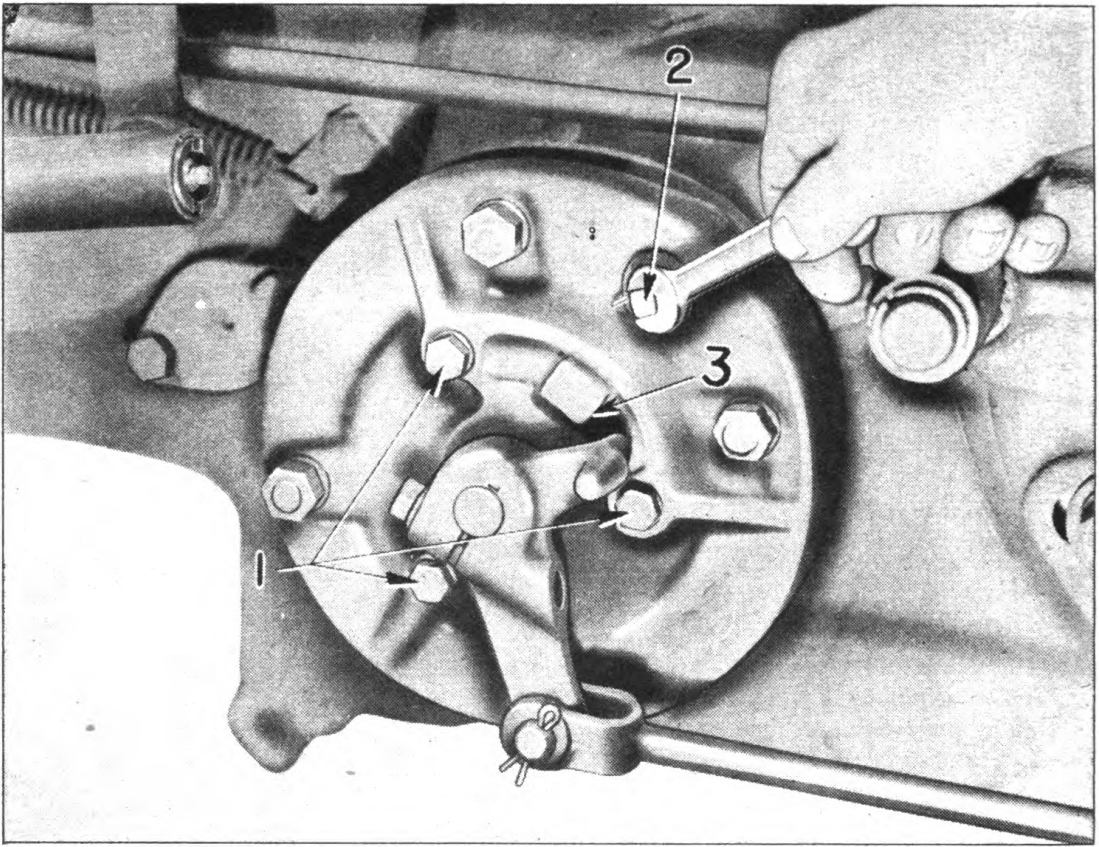

Fig. 13. Adjusting Brake
After considerable service, foot brakes will require adjustment to compensate for lining wear. When the arm on the brake actuating lever strikes stop 3 Fig. 13, it is necessary to adjust the brakes. This adjustment may be easily made, without disassembling the brake, by following these steps:
2. On the outside of the brake housing are three cap screws (1), Fig. 13. Loosen each of these screws several turns.